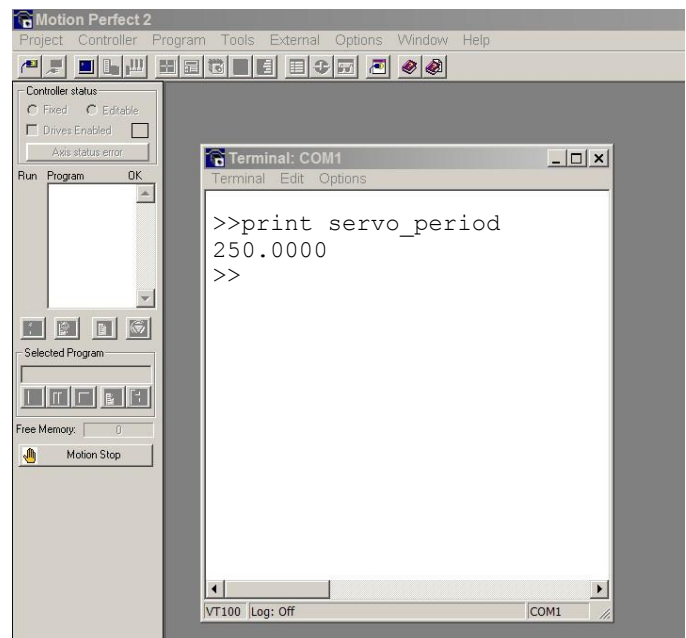

Fig 6 – Verifying SERVO_PERIOD after power cycle
6. After power-up, verify SERVO_PERIOD at the Command prompt ">>" in *Motion Perfect2*, Fig. 6.